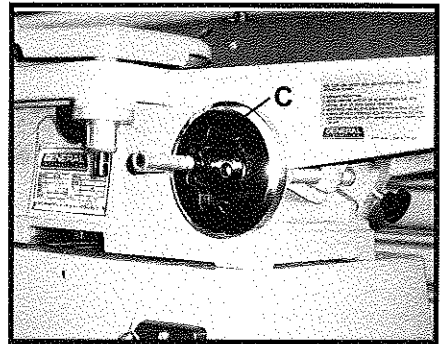

Fig. 9
2. The table can be moved by turning the handle (C) in front of the table (Fig.9)